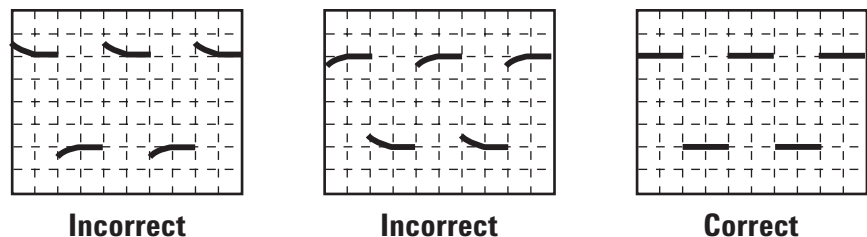

Figure 2.
3. Set the low-frequency compensation adjustment on the probe for the flattest pulse possible (see Figure 2).